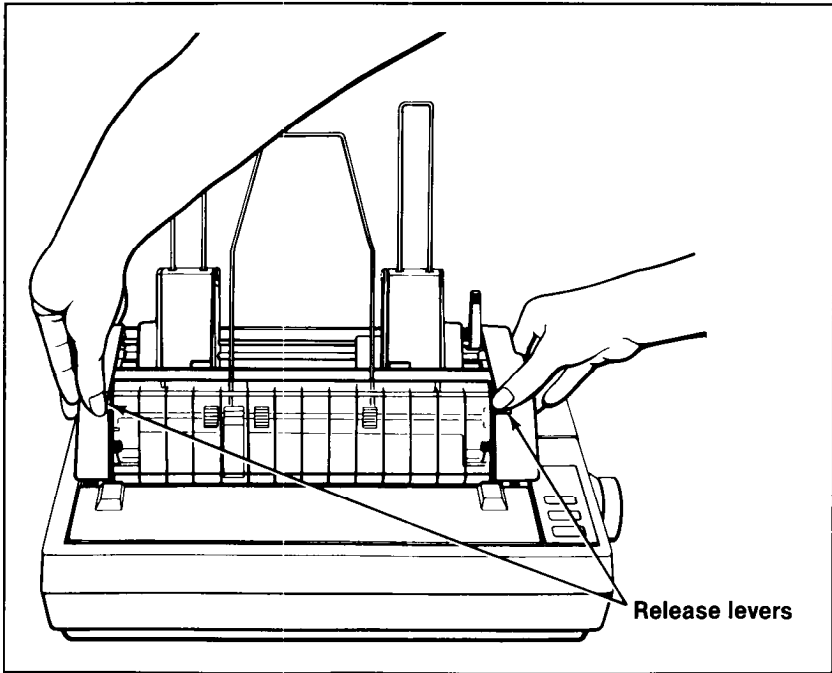

Figure 2-9. Removing the cut sheet feeder
4. Hold the cut sheet feeder on each side, press the release levers as shown in Figure 2-9, and lift the unit off the printer.